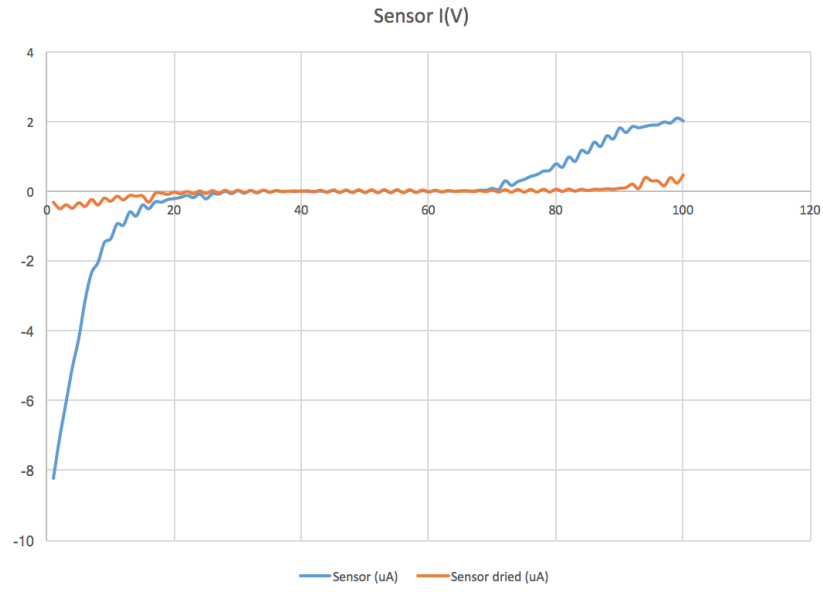

Figure 10: Measurement of the behavior of the nano-particles sensor.
- Figure 10 shows the resistivity of the nano-particles combs